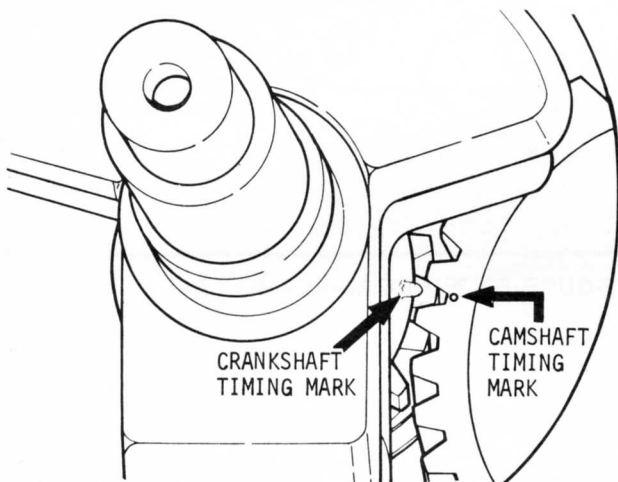

FIGURE 53 TIMING CAMSHAFT TO CRANKSHAFT
- B. Turn crankshaft and camshaft until timing mark on shoulder of crankshaft lines up with mark (dot) on cam gear as shown in Figure 53.